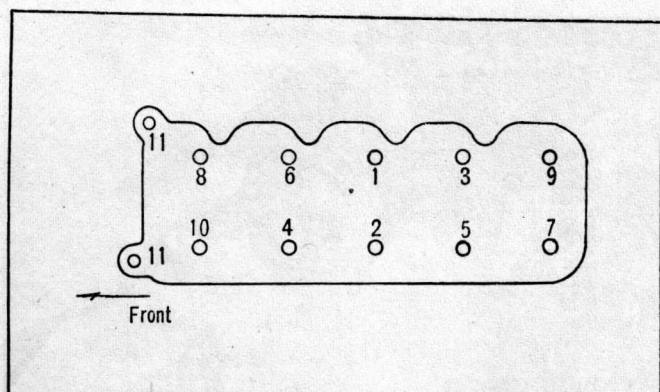

Fig. 37 Head Bolt Tightening Sequence
- (2) Install the cylinder head assembly on the cylinder block and tighten head bolts and nuts. Bolts should be tightened in the sequence shown in Fig. 37, in 3 to 4 stages, first weak slightly and finally firmly to the specified torque. (Fig. 37)